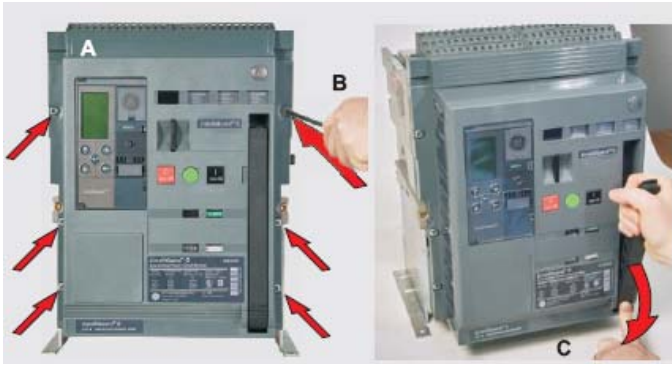

Figure 1. (A) Front Cover (B) Screw Removal (C) Handle Rotation
2. Loosen the 6 screws on front cover (fascia) using a posidrive screw driver as shown in Fig 1.B. Rotate the charging handle down and slide the front cover over the handle to remove the front cover as shown in Fig. 1.C.